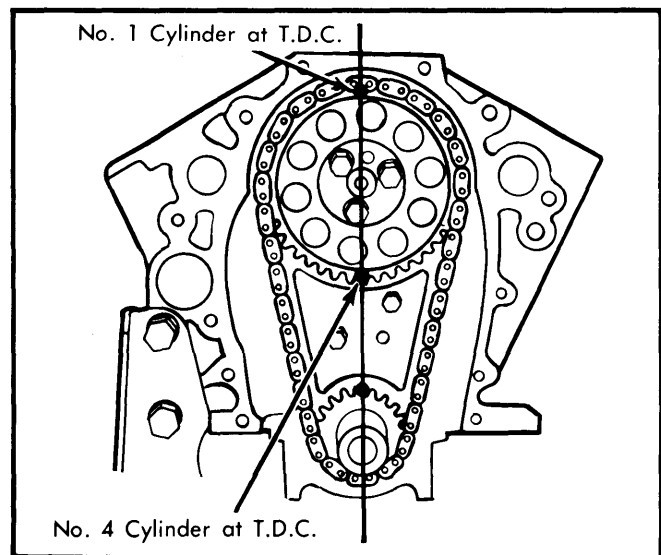

Fig. 12 Camshaft Timing
**Removal** — Remove front cover and rotate engine to align timing marks on crankshaft and camshaft sprockets (No. 4 firing). Remove camshaft sprocket-to-camshaft bolts. Remove sprocket and timing chain together. See Fig. 12.
**Installation** — 1) Place timing chain over camshaft sprocket so that it hangs below sprocket. Align marks on camshaft and crankshaft sprockets. See Fig. 12.